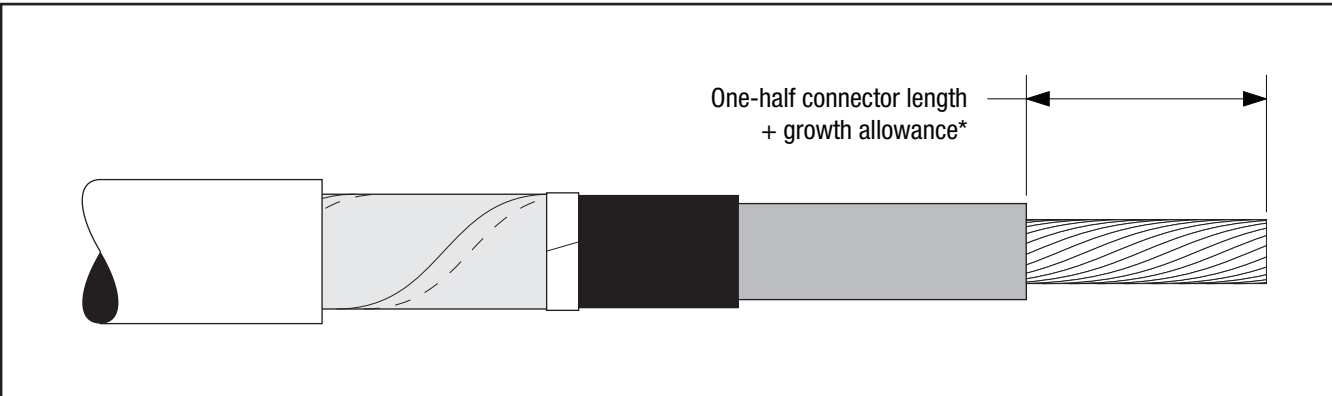

Figure 6
3.3 If using a crimp type connector, remove cable insulation for 1/2 connector length plus an allowance* for increases in connector length due to crimping. Insulation removal length shall not exceed 3 3/4" (95 mm) from conductor end. Do not install connector now (Figure 6).